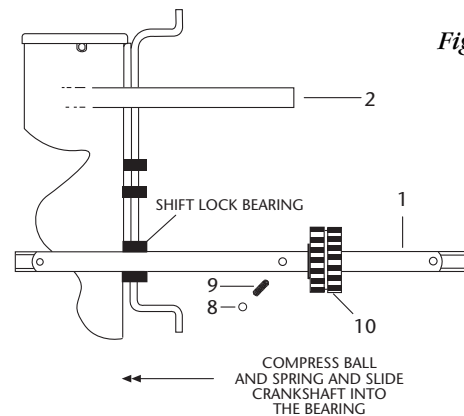

Figure 13
3. While compressing the ball and spring into the hole, carefully slide the crankshaft into the shift lock bearing of the gearbox as shown in *Figure 13*. The ball and spring should be captured under the bearing surface. Push the crankshaft into the gearbox until it is engaged in low gear.